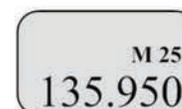

Figure 3
- The LCD will flash the "M" in the upper display. (See Figure 3)